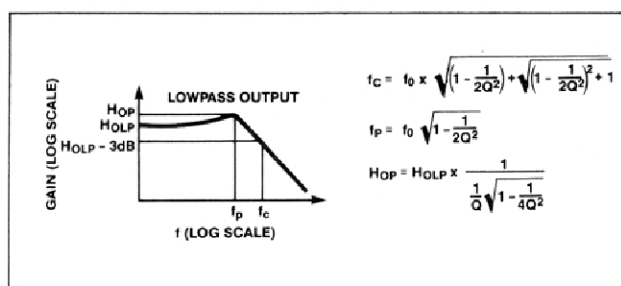

Figure 2. Lowpass Filter Terminology
- $H_{OLP}$ : The gain in V/V of the lowpass output as  $f \rightarrow 0$ Hz, See Figure 2.